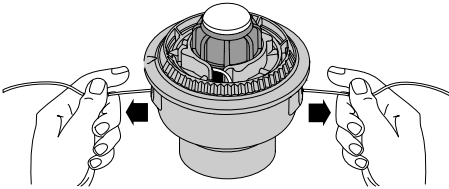

Fig. 24
9. If winding the line becomes difficult or the line jams, pull the ends of the line from the spool. Continue winding the inner reel counterclockwise (Fig. 24).
4. Hold the inner reel in place and install the bump knob, spring and foam seal by pressing down and turning the bump knob clockwise. Grasp the ends and pull firmly to release the line from the holding slots in the inner reel. (Fig. 24).
If the SpeedSpool® does not release line correctly, pull the ends of the line firmly from the spool (Fig. 24). If this does not release line, follow the Cleaning the SpeedSpool® instructions below.